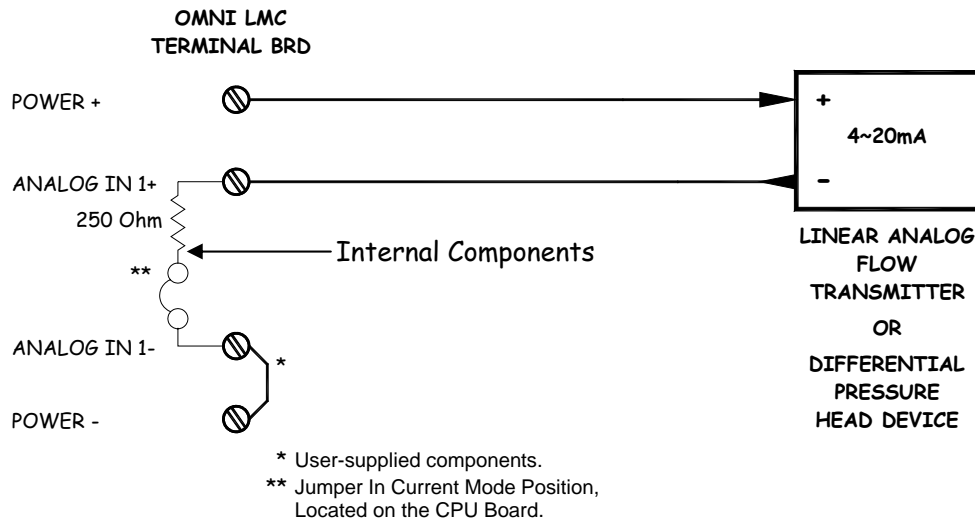
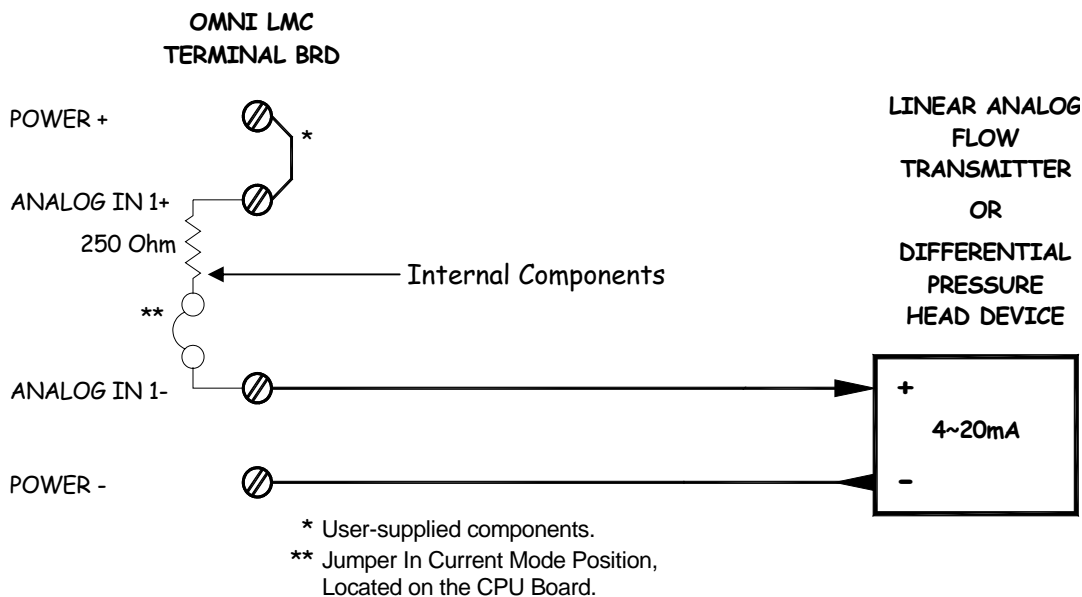

Figure 5-8. Wiring a linear analog or a differential pressure flowmeter to LMC Analog Input #1 in a high-leg wiring configuration.
Figure 5-9. Wiring a linear analog or a differential pressure flowmeter to LMC Analog Input #1 in a low-leg wiring configuration.
Linear analog and differential pressure (DP) flowmeters connect to the LMC just as any other 4–20mA or 1–5V analog transmitter (see Section 6.1 “Miscellaneous Analog Transmitters”). Connecting these device types to the LMC Analog In as a high-leg or log-leg configuration are indicated in Figure 5-8 and Figure 5-9 respectively. Refer to Section 4.1.1 “Analog Inputs” for jumper location and settings.